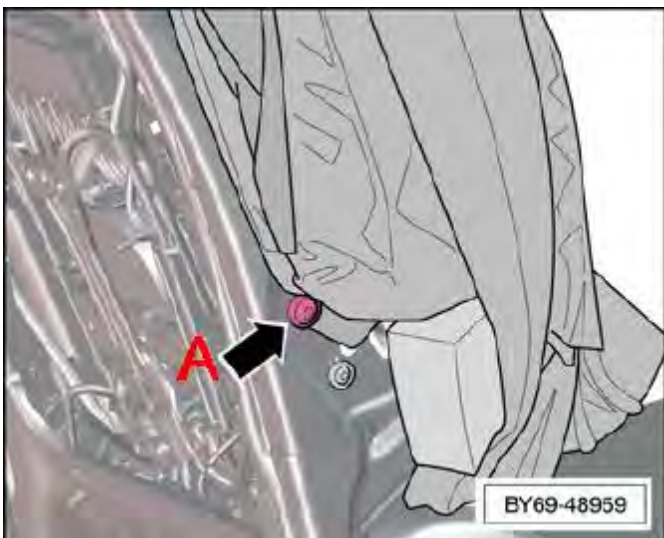

Figure 44
7. Using an in date calibrated torque wrench apply 9 Nm to fastener (A) (part number N90737101 - M6 X 12) for both front seats (see Figure 44)